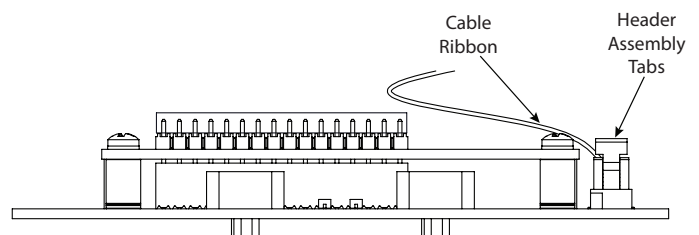

Figure 33: Release cable ribbon
5. Open the tabs on the header assembly to release the cable ribbon connector. See Figure 33.